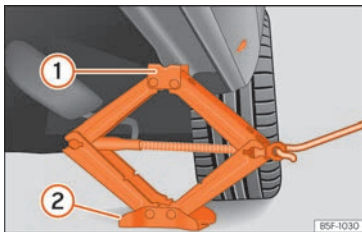

Fig. 41 Cross member: positioning the jack on the vehicle.
- Turn the jack* crank handle, located below the strut support point, to raise it until the tab ① »» **Fig. 41** is below the housing provided.
- Align the jack* so that tab ① “grips” onto the housing provided on the strut and the mobile base ② is resting on the ground. The base plate ② should fall vertically with respect to the support point ①.